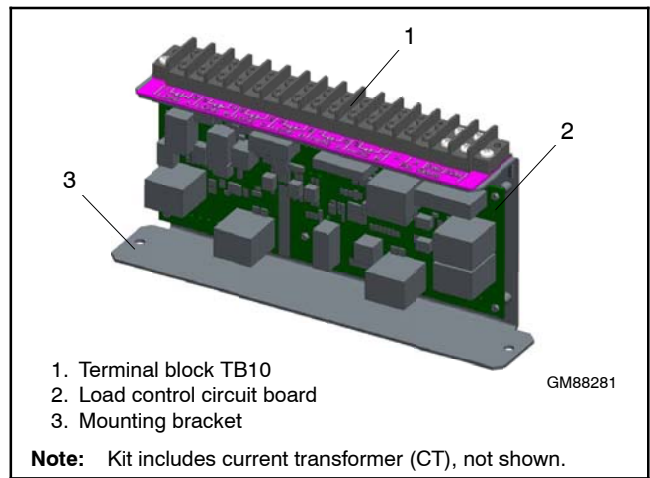

Figure 2-4 Load Shed Assembly GM88281-1 (mounts inside the transfer switch enclosure)
- The optional Load Shed Kit mounts inside a model RDT or RXT transfer switch. Figure 2-4 shows the load shed assembly.